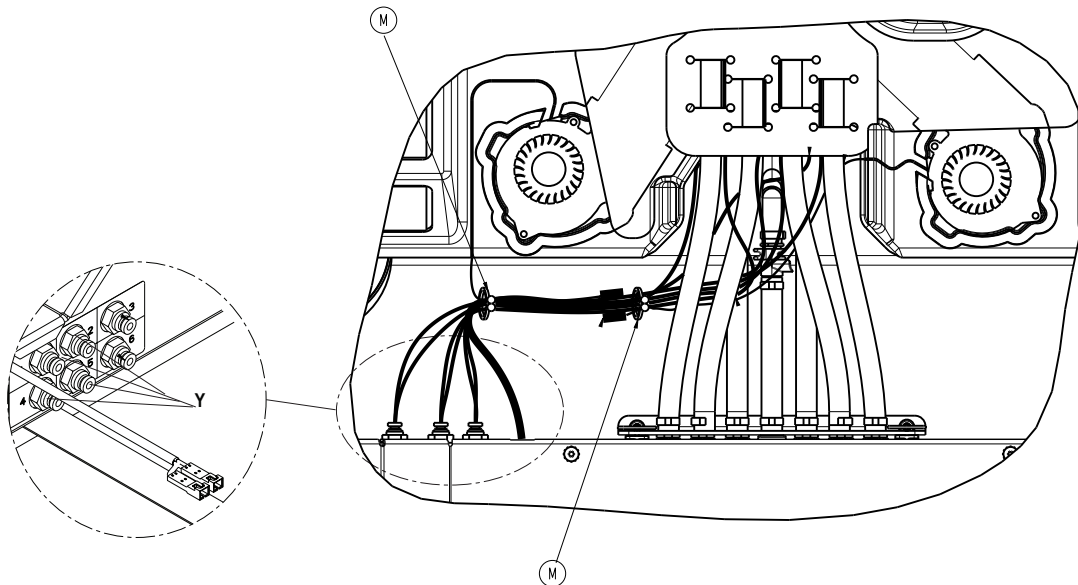

Figure 7 – Pod sensor hoses and purse lock wire tie
8. Disconnect the four pod sensor hoses (Y) (one blue, two yellow, four green, and five orange) from the foot box. Push into the coupling and pull out on each of the hoses (Figure 7).